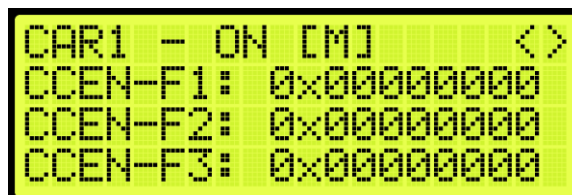

Figure 375: Front Car Call Enable Bitmap Status
15. From the Front Car Call Enable Bitmap Status (See Figure 375), press the right button.